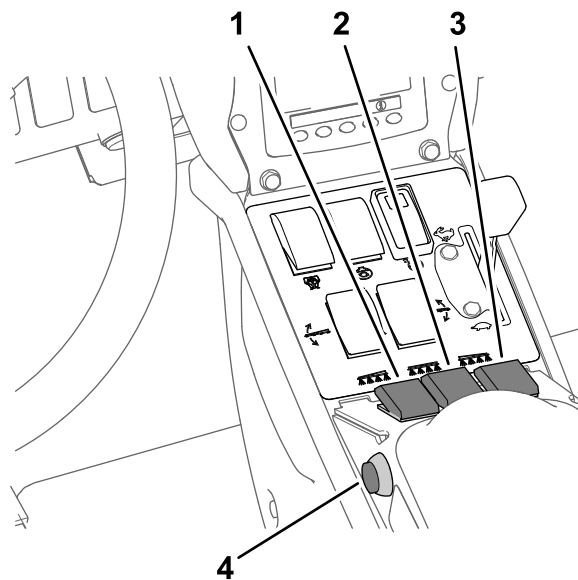

Figure 30
7. Set the spray section switch(es) to the ON position (Figure 30).
10. Drive at the desired speed and then set the master section switch to the ON position to begin spraying (Figure 30).
3. Set the master section switch to the OFF position; refer to Figure 30 in Spraying in the Application Rate Mode \(page 32\).
7. Set the individual section switches, as needed, to the ON position; refer to Figure 30 in Spraying in the Application Rate Mode \(page 32\).
9. Drive at the desired speed and then set the master section switch to the ON position to begin spraying; refer to Figure 30 in Spraying in the Application Rate Mode \(page 32\).